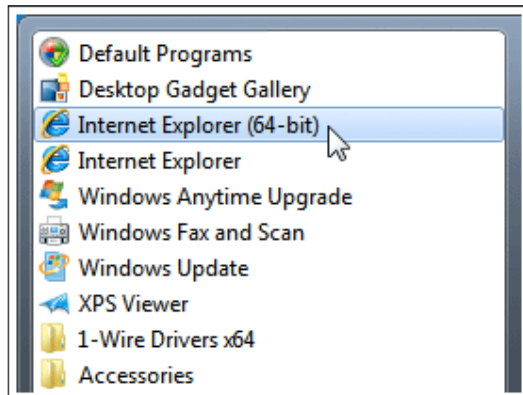

Figure 2. Selection of the 64-bit Internet Explorer (IE) versions with which to download Java on 64-bit Windows.
If you are running a 64-bit version of a Microsoft Windows operating system, make sure to visit the Java website with the 64-bit version of Internet Explorer® (IE) before downloading Java. If you do not take this step, you may download/install a version of Java that is incompatible with the 64-bit OneWireViewer. As can be seen in **Figure 2** below, both 32-bit and 64-bit versions of IE are available on 64-bit Microsoft operating systems. To find the 64-bit IE on your computer, click the Microsoft Start button, then All Programs and you will see the IE icons. Launch the IE selected in Figure 2 and visit <http://java.com>.